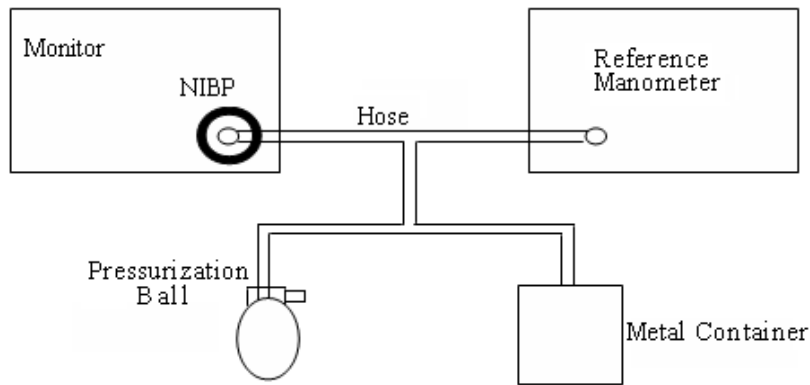

Figure 6.33 NIBP Calibration Diagram
2. Connect a calibrated reference manometer with a precision of at least 0.11 kPa (0.8 mmHg) and a pressurization ball with the NIBP module's pneumatic system by using a T-connector and hoses, as referred to Figure 6.33.